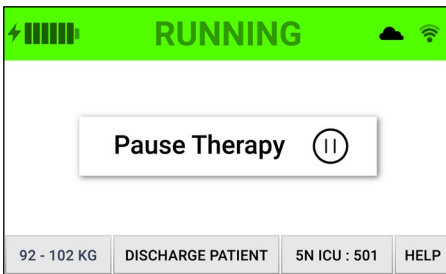

Figure 20. Discharge patient button
- To stop therapy at the end of patient use, press Discharge Patient at the bottom of the running or paused screen. (Fig. 20)